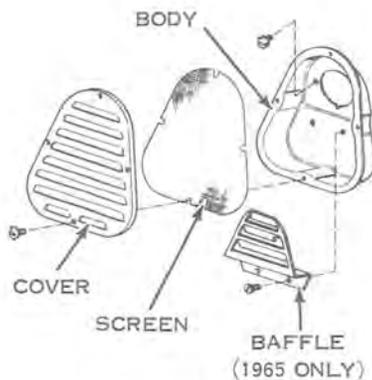

Figure 5-3
- a. Remove air cleaner cover and screen. Remove baffle (1965) or screen (1966) and air cleaner body (see Figure 5-3).